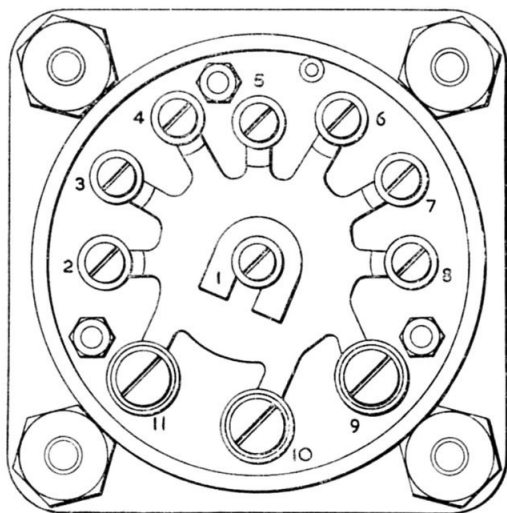

Fig. 2. Terminal arrangement
3. At the other end of the switch is the terminal block, shown in fig. 2, and accessible by removing the terminal cover. There are three heavy-duty contacts rated at 8 amp. which control the pump motors, and the remaining signalling contacts are rated at 2 amp. The electrical connections to the switch are taken through a rubber grommet with individual nipples; on installation, the required nipples are sheared off to allow the cables to pass through, and the grommet may be pushed inside out for access to the leads.